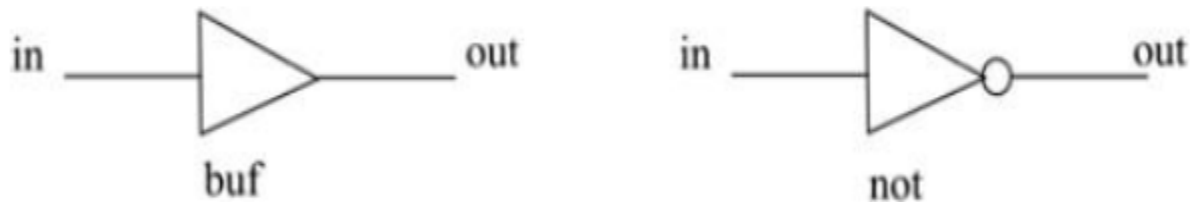

Figure 3-2. Buf/not Gates
- The symbols for these logic gates are shown in Figure 3-2.